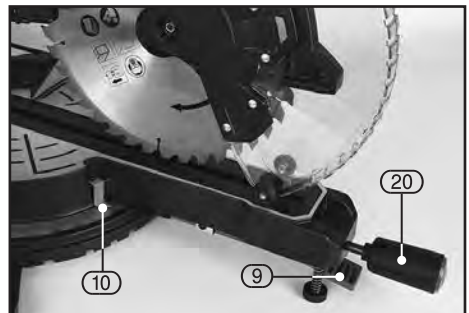

FIG.8
- Open the two levers (29) at the front of the table.
8.7 MITRE TABLE LOCK – FIG.8